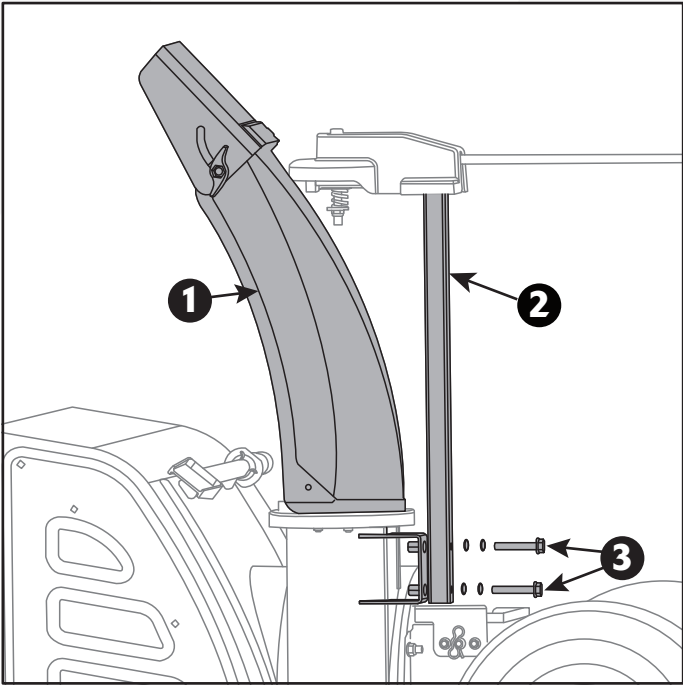

Fig. 5A
1. Place the snow discharge chute on the base of unit body. (Fig. 5A)
2. Align snow discharge support with snow discharge chute on the main body. (Fig. 5A)
3. Secure the snow discharge support to the main body with two bolts and washers. (Fig. 5A)